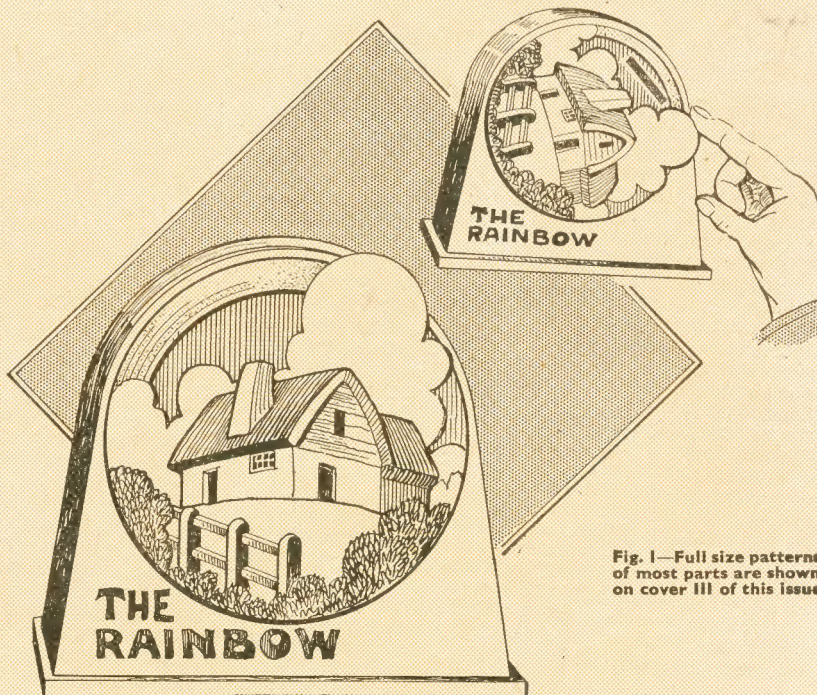
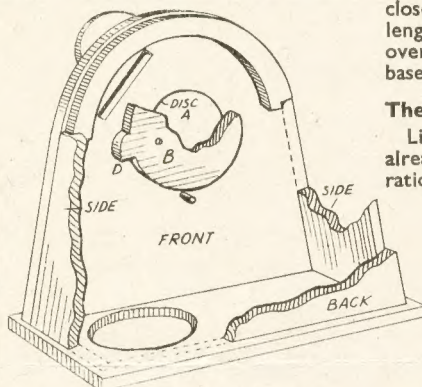

Fig. 1—Full size patterns of most parts are shown on cover III of this issue
Fig. 3—Cut-away view showing construction
The novelty of the box lies in the hidden slot through which the coins pass to the box itself. On the front face of the box there is, what at first glance might be taken to be, a fixed decorative overlay, cut to the same curve as the top of the box. This overlay, however, is not definitely fixed, but is pivoted artfully to the front of the box so that it may be moved downwards with the forefinger, as shown in the smaller illustration in Fig. 1.
position shown in the sectional diagram Fig. 3. Glue, most likely, will be found insufficient to hold disc (B) securely to disc (A), as the latter will lie flush with the surrounding wood of the front. It might even be necessary to glasspaper the surrounding wood, thus allowing the surface of the disc to very slightly protrude above that level.
The stop pin shown on the pattern and in the diagram Fig. 3, must be correctly placed in relation to the lug (D), so when the overlay is pulled down it stops at the required spot, allowing full view of the slot in the front of the box, seen in the smaller sketch in Fig. 1. The free, but stiff movement of the overlay in conjunction with its rear